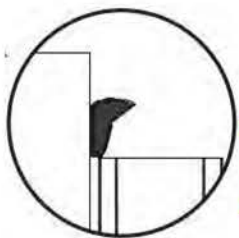

Fig. 9
1. Cut two pickets to attach to the posts at each end. The picket sits inside the aluminum rail and should be cut to fit just below the top bracket (see Fig. 9).